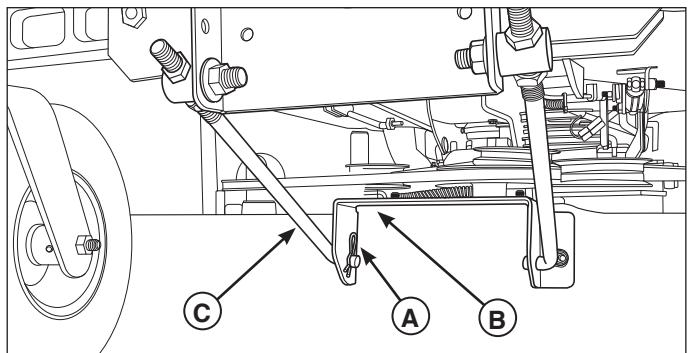

Figure 20. Front Deck Lift Components
5. Remove the hairpin clips and washers (A, Figure 20) securing the front mower deck bracket (B) to the front lift rods (C), and pull the rods out from the holes in the bracket. Retain all removed hardware.
4. Insert the front lift rods (C, Figure 20) into the bottom holes in the front mower deck bracket (B), and secure each with a washer and hairpin clip (A).